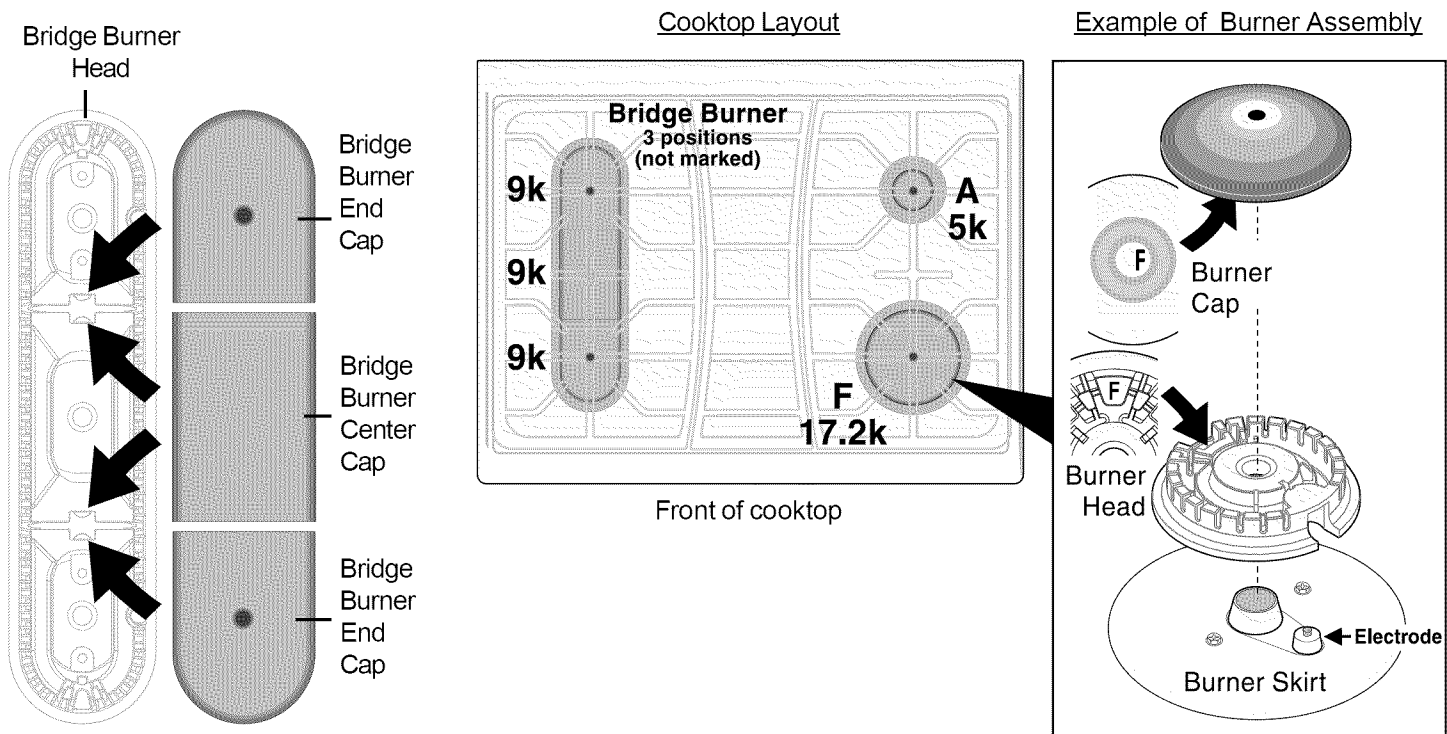

Fig. 4
- Replace the orifice in each of the 5 orifice holders with kit supplied LP/Propane gas orifices (refer to the LP Kit chart listed on page 1) Also refer to Fig. 4 for the correct LP orifice installation at each of the 5 surface burner locations. Tighten each orifice until snug. Use CAUTION not to overtighten. The Bridge Burner orifice holders are located through the Bridge Burner Head at three locations (See Fig. 6).
- Replace all Burner Heads & Caps. Match the letter located under center of Burner Cap with letters located inside the Burner Heads (See Figs. right-hand Burners only). Refer to Fig. 4. The three Bridge Burner Caps are not marked. Replace the Bridge Burner Caps as illustrated (Fig. 4).